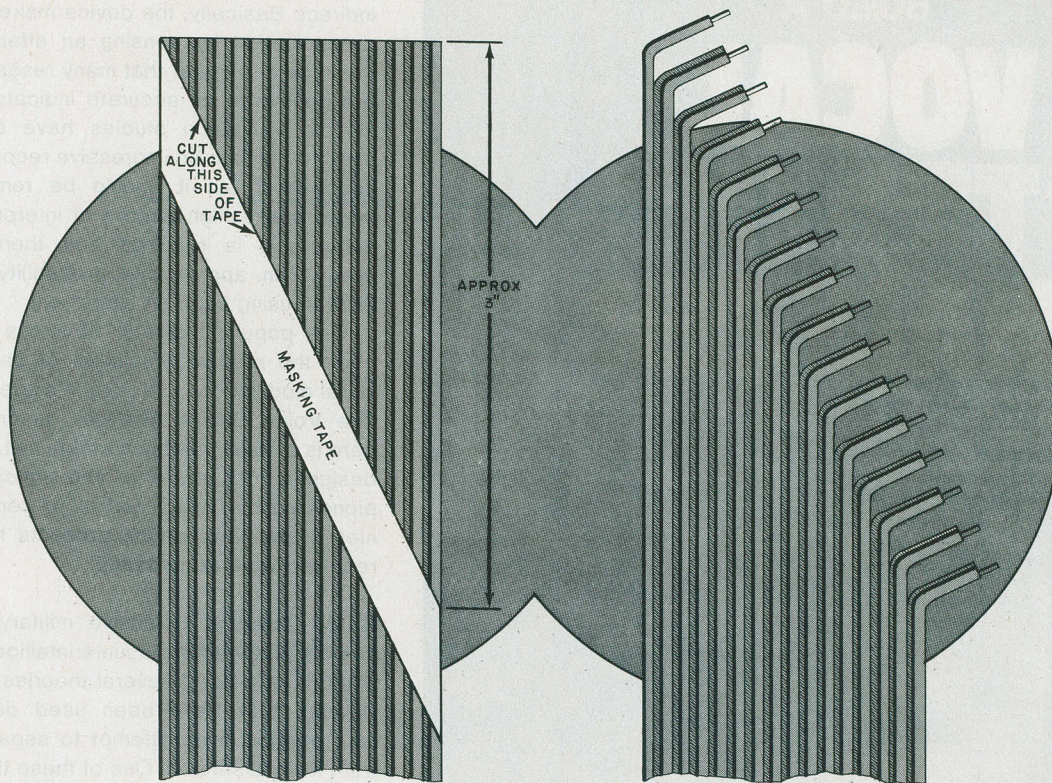
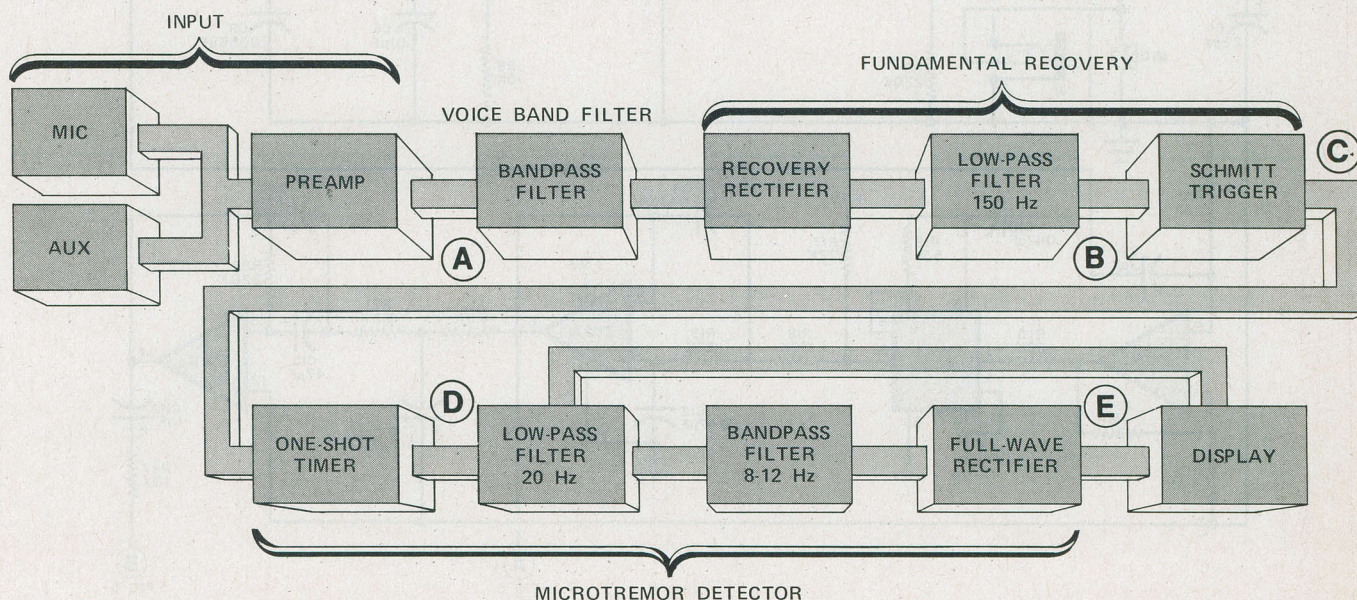

Fig. 3. The 16-lead ribbon cable is prepared as shown here with the leads cut diagonally so that they can be connected easily to circuits on the board.
Fig. 2. The analyzer circuit is designed to extract the 8-to-12-Hz microtremor from the voice input and use the resultant signal to turn on a LED display.
**System Operation.** Basic operation of the Voice Stress Analyzer is shown in Fig. 2, while Fig. 3 illustrates typical waveforms (not drawn to scale) that occur in the circuit.
Fig. 3. Typical waveforms within the analyzer. According to the authors, the "trick" lies in detecting the presence of the narrower microtremor peak spacing within the voice frequencies. Integrated one-shot pulses derived from these signals are used to toggle the readouts.